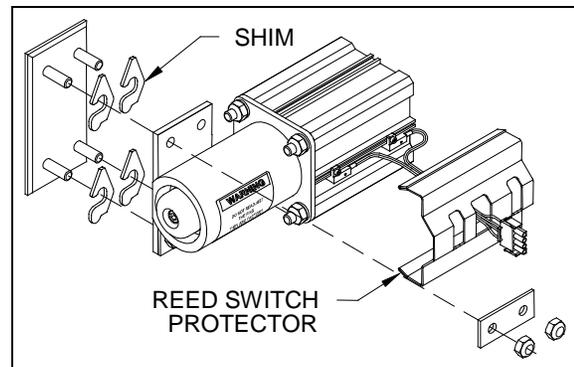

FIGURE 12 : LOCKING PIN INSTALLATION
5. Align the locking pin with the slide-out receptacle by putting shims between the locking pin base and the vehicle structure (figure 12). The shims must be inserted with a sliding fit. Make sure to put as many shims on the upper studs as on the lower studs to keep the locking pin base parallel to the vehicle structure.
4. Note the pneumatic tubing position, and then disconnect the tubing and the electric cable from the locking pin assembly (figure 12).
6. Remove the sensor switches. Unscrew and remove the locking pin unit. Keep the shims for further installation (figure 12).